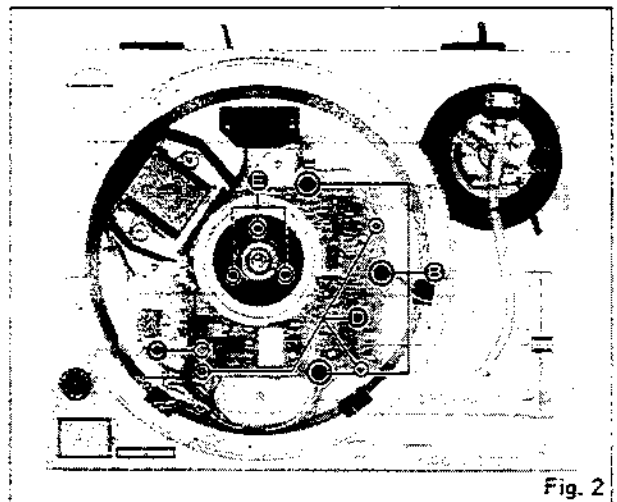

Fig. 2
4. Remove 3 connectors (B) and 2 read wires (C) from power transformer as shown in Fig. 2.
5. Remove 3 screws (D) of the drive circuit board and 3 screws (E) of the stater frame cover as shown in Fig. 2.